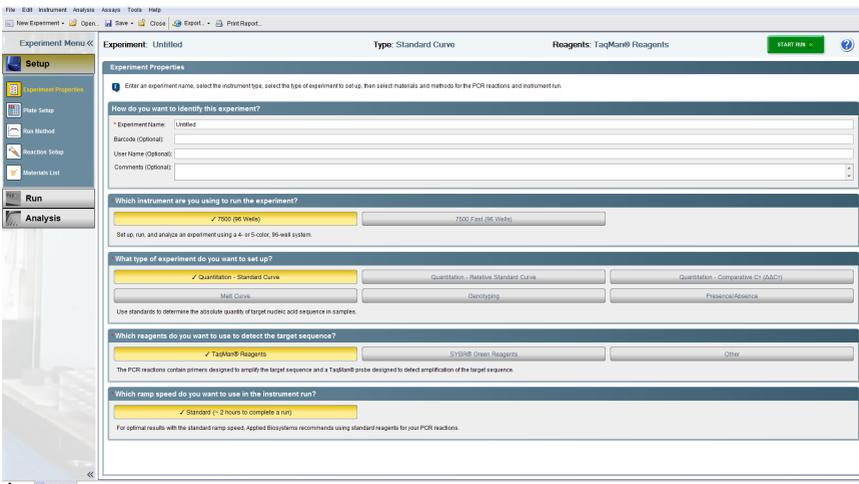

Figure 26. Selecting the correct Experiment Properties settings.
11. Once the new window opens, enter a new **Experiment Name** in the appropriate field. Select the following settings (Figure 26):